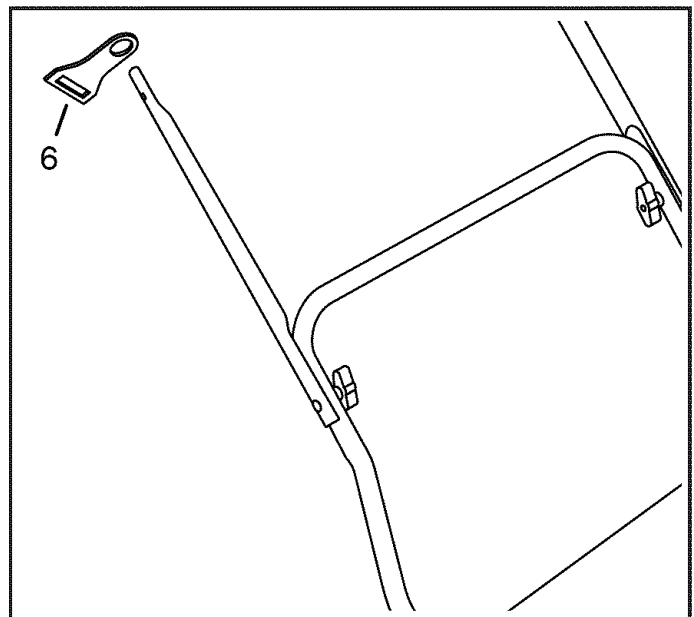

FIGURE 4
STEP 4: (SEE FIGURE 4)
- Slide the cord minder (6) onto the right middle handle tube.